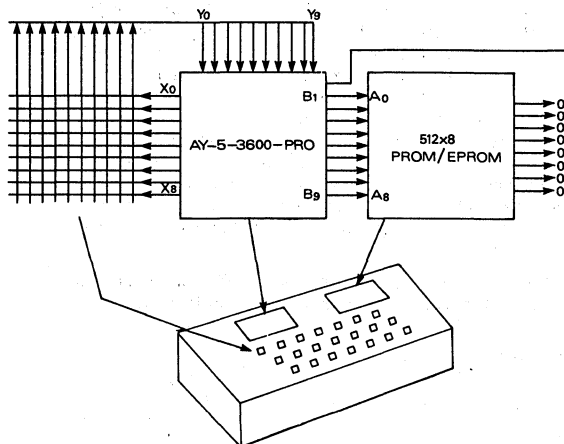

Fig.9 90 KEY 4 MODE KEYBOARD APPLICATION
Expansion to a 90 key 4 mode operation (see Fig. 9) is identical to the 64 key 4 mode except: the 90 key 4 mode version utilizes the full complement of addresses X0 Y0 thru X8 Y9 (90 keys). The 8-bit binary code (B2-B9) previously produced to address the 256 × 8 PROM/EPROM is now expanded to a 9-bit binary code (B1-B9) for addressing to a 512 × 8 PROM/EPROM. With expansion to a 90 key 4 mode application outputs B1-B3 now serve as the variable mode identification.